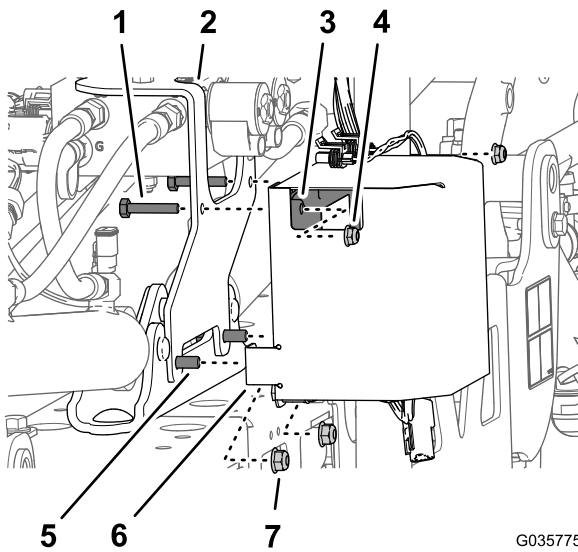

Figure 29
3. Remove the 2 flange locknuts (5/16 inch) that secure the mounting bracket of the ultra sonic boom finishing kit from the cylinder mount (Figure 29).
4. Assemble the controller cover (Figure 29) onto the flange-head bolt (5/16 x 1 inch) at the lower forward holes in the cover, and loosely secure the cover, bracket and mount with the 2 flange locknuts (5/16 inch) that you removed in 3.
5. Assemble the 2 bolts (1/4 x 1-3/8 inches) through the upper holes in the mounting bracket (ultra sonic boom finishing kit), rear flange (controller cover), and controller (Figure 29) with the 2 flange locknuts (1/4 inch).